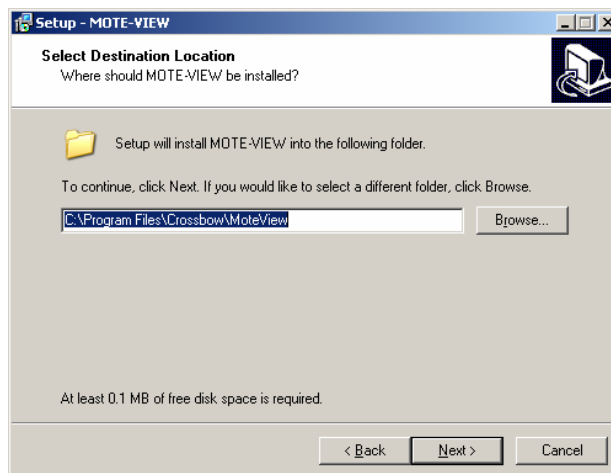

Figure 2-1. Step 4: Destination folder select and confirm screen.
4. Select the desired installation directory, then click **Next>** (see Figure 2-1).